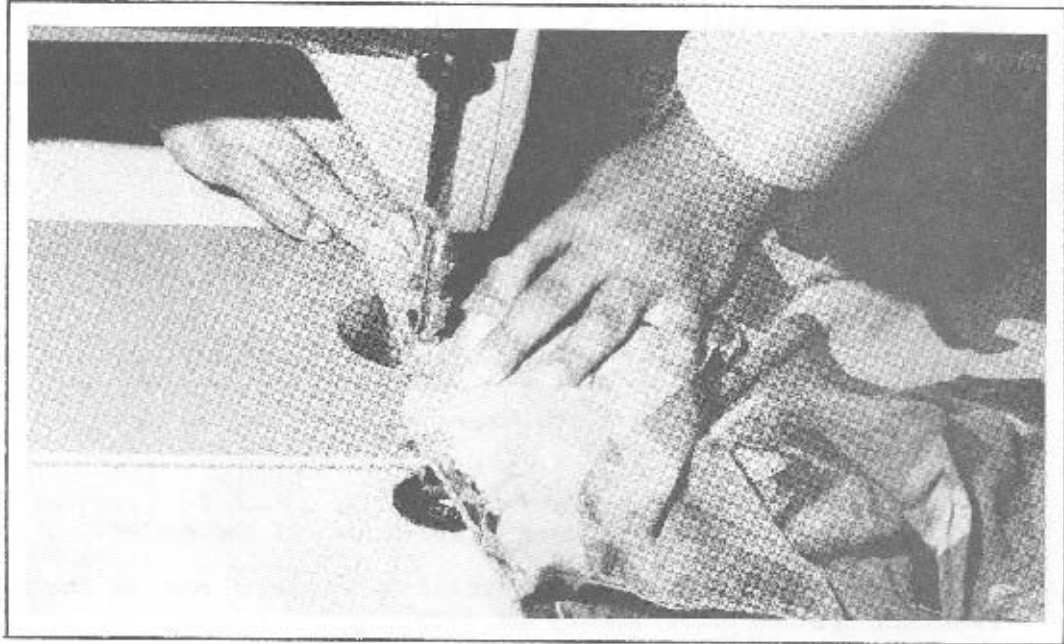

Figure 3-70
- e. Make a 1-inch tack by overlapping the 1/4-inch stitch row in the collar, and sew a row of stitches 1/16-inch from the folded edge. Finish the stitch row with a 1-inch tack by overlapping the 1/4-inch stitch row 1-inch. (See Figure 3-70 and Figure 3-71.)